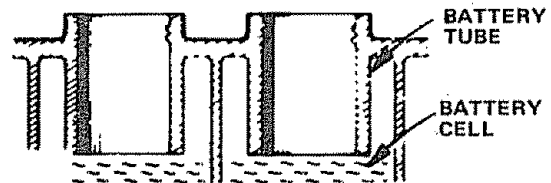

FIGURE 39
- Electrolyte solution level in each Battery Cell should be even with bottoms of tubes in cells (Fig. 39). Add distilled water if necessary. **NOTE: DO NOT OVERFILL.**